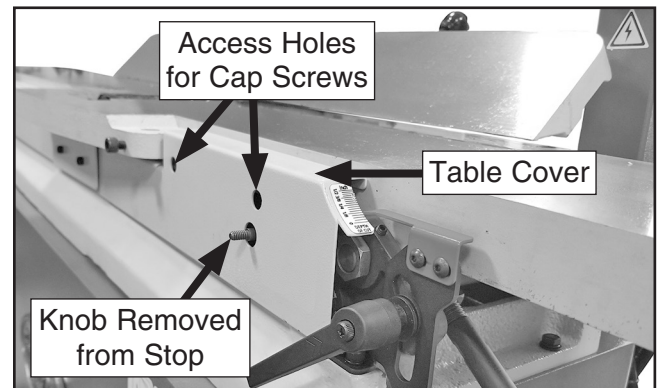

Figure 57. Accessing infeed table stop.
2. Remove table release knob by unthreading it (see **Figure 57**), and then remove infeed table covers (see **Figure 57**) by removing plugs and cap screws that secure covers to table.